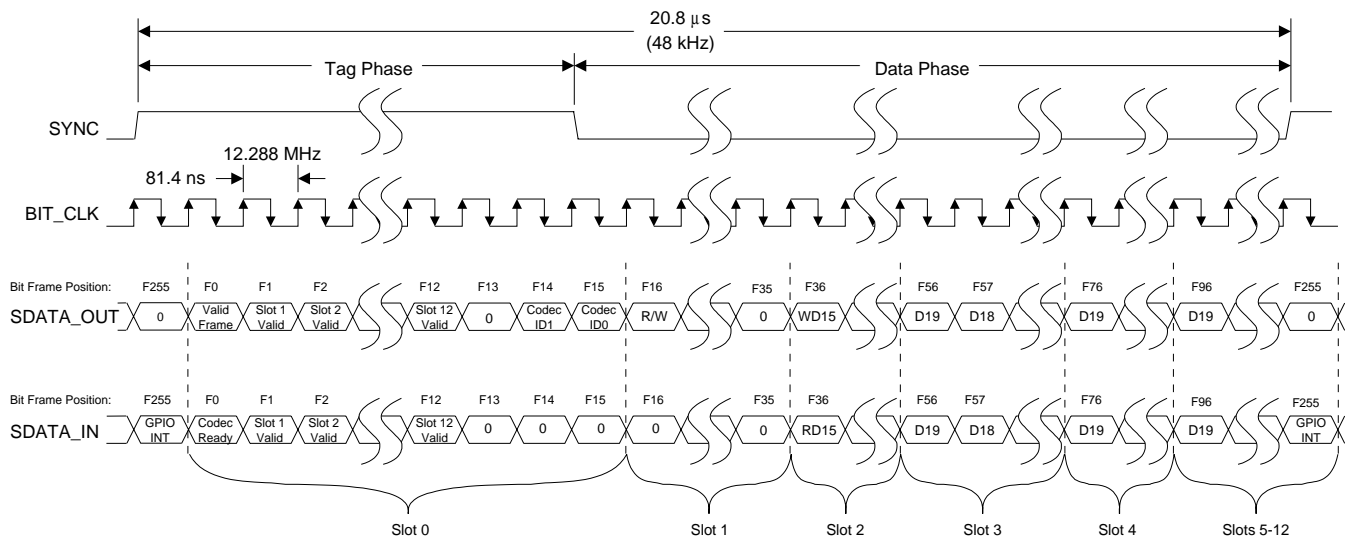

Figure 9. AC-link Input and Output Framing
The controller synchronizes the beginning of a frame with the assertion of the SYNC signal. Figure 9 shows the position of each bit location
In the serial data output frame, data is passed on the SDATA_OUT pin to the CS4202 from the AC '97 controller. Figure 9 illustrates the serial port timing.
- R/W** Read/Write. When this bit is 'set', a read of the AC '97 register specified by the register index bits will occur in the AC '97 2.x audio codec. When the bit is 'cleared', a write will occur. For any read or write access to occur, the Valid Frame bit (F0) must be 'set' and the Codec ID[1:0] bits (F[14:15]) must match the Codec ID of the AC '97 2.x audio codec being accessed. Additionally, for a primary codec, the Slot 1 Valid bit (F1) must be 'set' for a read access and both the Slot 1 Valid bit (F1) and the Slot 2 Valid bit (F2) must be 'set' for a write access. For a secondary codec, both the Slot 1 Valid bit (F1) and the Slot 2 Valid bit (F2) must be 'cleared' for read and write accesses. See Figure 9 for bit frame positions.
In the serial data input frame, data is passed on the SDATA_IN pin from the CS4202 to the AC '97 controller. The data format for the input frame is very similar to the output frame. Figure 9 on page 15 illustrates the serial port timing.